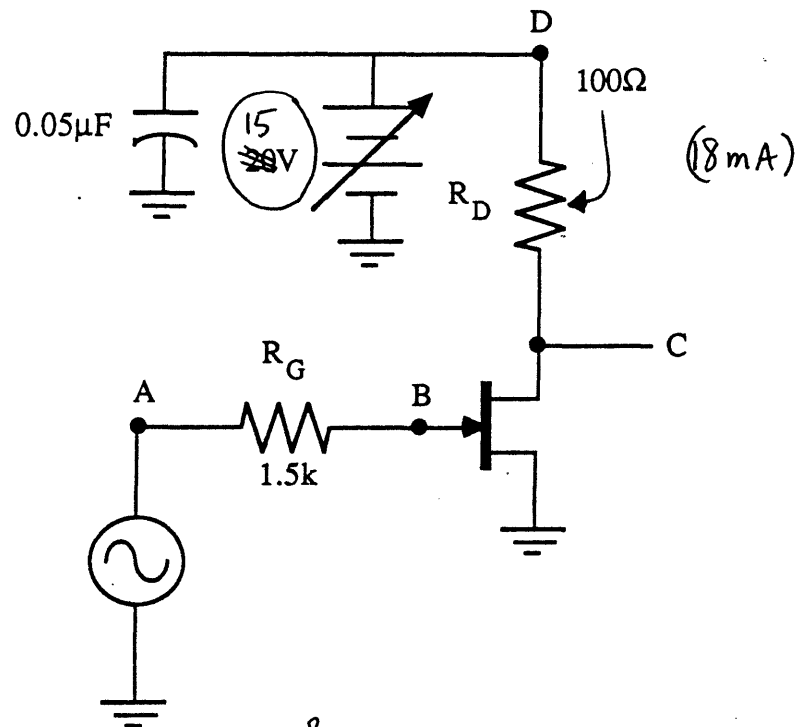

Figure 2^b FET amplifier
- (2) Test the reference transistor to make sure you have the settings right.
(3) Display your transistor's drain characteristics and adjust the controls as needed to get a nice display. ACCURATELY record the characteristics in Table 11.1. Pay particular attention to the slopes of the curves in the resistive and saturation regions.
(4) Set the curve tracer to the default transfer characteristic settings listed in ^{Table} Figure 2.
FETs are commonly used as current sources for circuits found on IC's. Consider the FET current source shown in Figure 2.
- (1) Build the circuit of Figure 2. Use your RSB for R_D .
- (2) Measure I_D for R_D values of 10k, 20k, 30k, 40k and 50k. Record your measurements in Table 11.4.
- (3) The constant current should break down when V_{DS} is near $-V_P$. Take additional data near this breakdown point. Record your data in Table 11.4.
- (1) Build the circuit shown in Fig. 2. Connect scope CH1 to point A and CH2 to point C. Adjust the generator to produce a 100 mV_{p-p} 1 kHz triangle wave at point A.
- (2) Adjust the generator's DC offset so that point A is at approximately +1.0 V DC.
- (3) Use the scope to measure the AC_{p-p} voltage at point C. Record your data in Table 11.5.
- (4) Repeat steps 2 and 3 using +0.5 V, 0.0 V, -0.5 V, -1.0 V, -1.5 V, etc. in step 2 until you reach your transistor's V_P .
- (5) Set the generator's DC offset so that point A is at +1.0 V DC. Use the DMM to measure the DC voltage at point B. Record your result in Table 11.5.
The FET can be used in the common gate, common source mode, or common drain just as a BJT can operate in the common base, common emitter or common collector modes. The common source amplifier configuration of Figure 2 is usually used for voltage amplifiers; however, when impedance matching or high output power is a consideration the source follower (also called the common drain) configuration is usually employed.